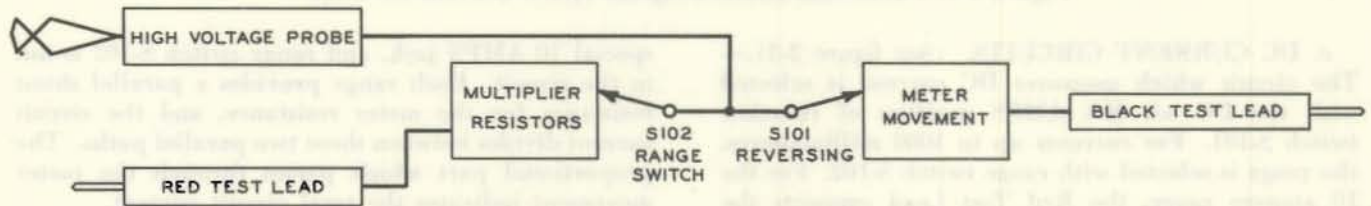

Figure 2-1. Functional Block Diagram of DC Voltage Circuits.
a. DC VOLTMETER CIRCUITS.—Figure 2-1 shows the block diagram of the circuit in Multimeter AN/PSM-4A for measuring DC voltages. The circuit is selected with function switch S-101, in either its DIRECT or REVERSE DCV position. For voltages up through 500 volts, a range is selected with range switch S-102. For the 1000 volt range, the Red Test Lead connects the special 1000 V.D.C. jack, and the